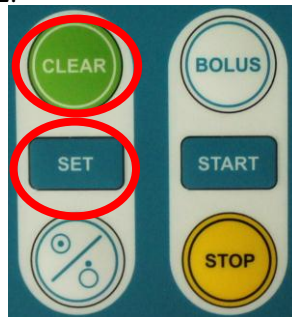

Figure 22
1) In the “Stop” status, press the **SET** key and the **CLEAR** key together to enter the “Menu Parameter Setting” interface as shown in Figure 22.